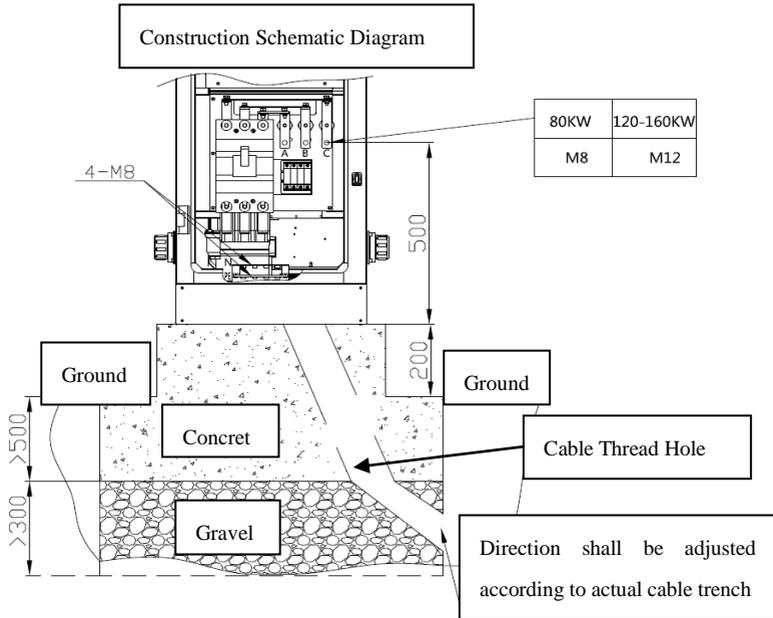
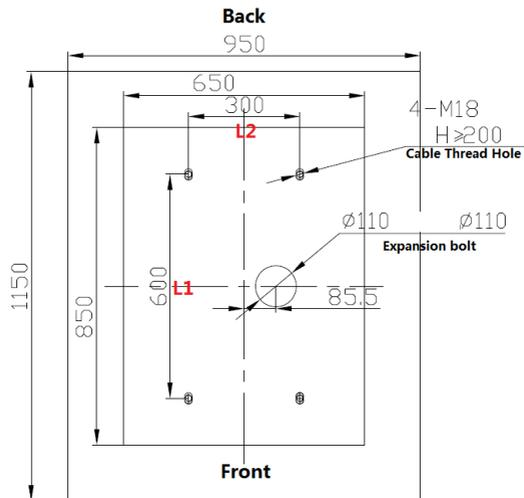

Figure 7.2.1 Construction Drawing
Figure 7.2.2 Concrete Installation Dimension
- (1) The charging pile is required to be installed on the cement column that shall be buried in the ground mostly to ensure safe and stable running, referring to Figure 7.2.1
- (2) The charging pile input line entries from the bottom, and enough space shall be reserved inside cement column.
- (3) Four expansion screws shall be used to fix charging pile on the cement column, and the screw size shall be determined by installation size and based on on-site requirements. Please refer to figure 7.2.2, chart 7.2.2 and chart 7.2.3 for specific size.
- (4) During the installation, enough distance between the charging pile and wall shall be ensured. The installation distance between the back door of the charging pile and wall shall be no less than 700 mm, and the distance between the side face of the charging pile and wall shall be no less than 500 mm.
- (5) The canopy shall be built together with the charging pile.
- (6) The above installation method is just a sample for reference. Relevant installation methods shall be chose according to the actual onsite situation Please refer to the construction instruction for details.
- (7) For input lines, specified cables are recommended. See Chart 7.2.1 for details: